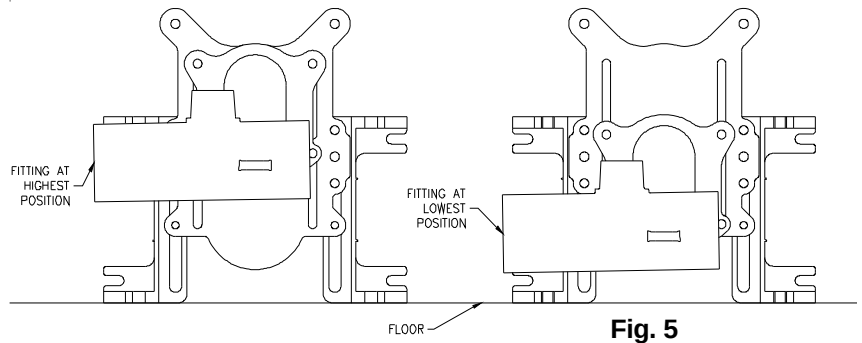

Fig. 5
5. Standing the assembly upright, loosen the faceplate bolts to adjust the waste line height and pitch as required. Re-secure bolts using ratcheting wrench (25-35 lb-ft of torque). See Fig. 5